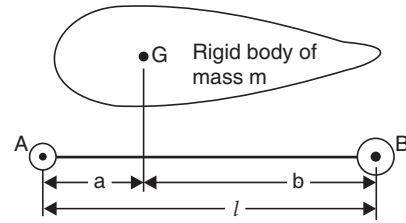

FIGURE 9.16
50. Figure 9.16 shows a rigid body of mass m having radius of gyration k about its centre of gravity. It is to be replaced by an equivalent dynamical system of two masses placed at A and B . The mass at A should be